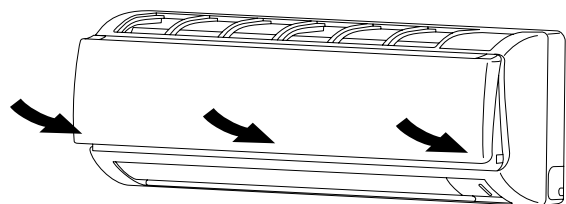

Fig. 3-90
- b) Press the bottom right and left corners and center of the air intake grille to attach it to the indoor unit. (Fig. 3-90)